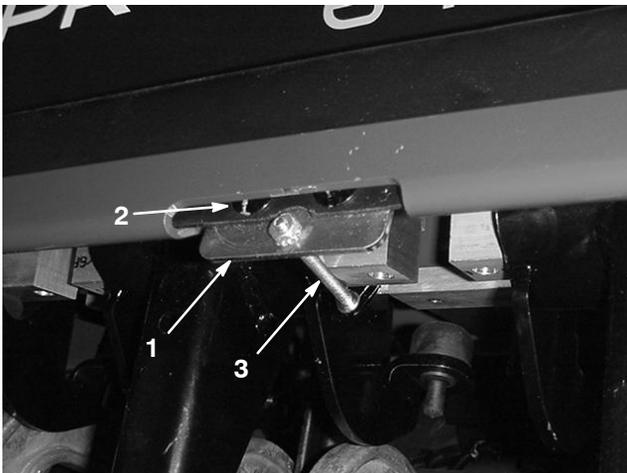

Figure 7
1. Secure the hood plate to the rear hood with (3) pop rivets (Fig. 7).
3. Insert the capscrew thru the hood plate (Fig. 7).
4. Secure the capscrew to the hood plate with a # 10 locknut (Fig. 7).